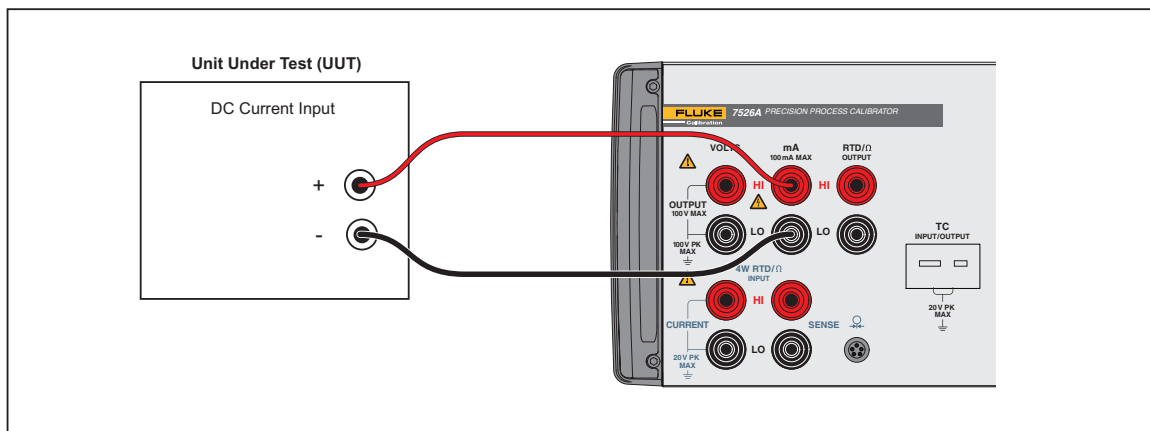

Figure 2-2. DC Current Output Connection
- Connect the UUT to the current output terminals of the Product as shown in Figure 2-2.